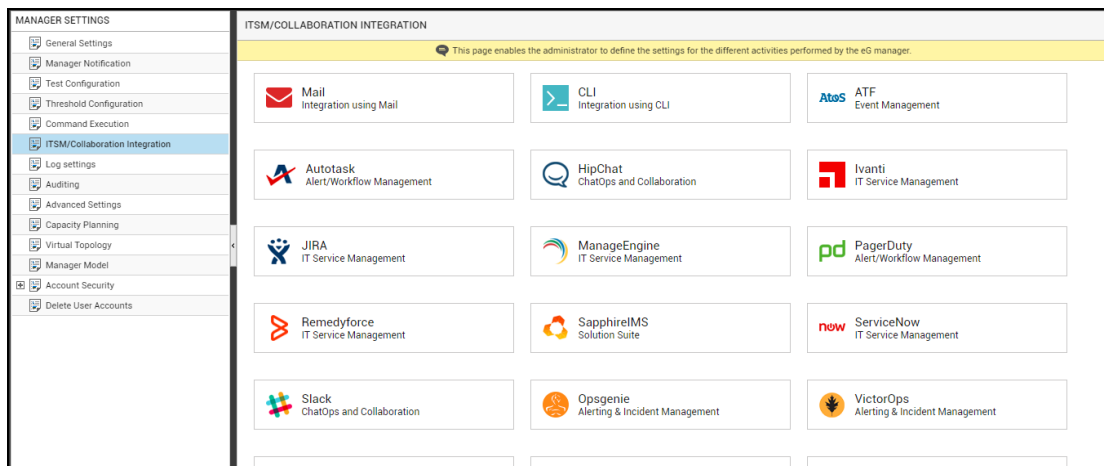

Figure 5.37: Viewing the ITSM/Collaboration tool options
3. Figure 5.37 will then appear. From the **MANAGER SETTINGS** tree in the left panel of Figure 5.37, select the **ITSM/Collaboration Integration** node. The third-party ITSM/Collaboration tools that eG Enterprise can integrate with will be listed in the right panel.
4. Now, click on the **Webhook Integration** option in the right panel (see Figure 5.37). A **Webhook Integration** section will now appear in the right panel (see Figure 5.38).